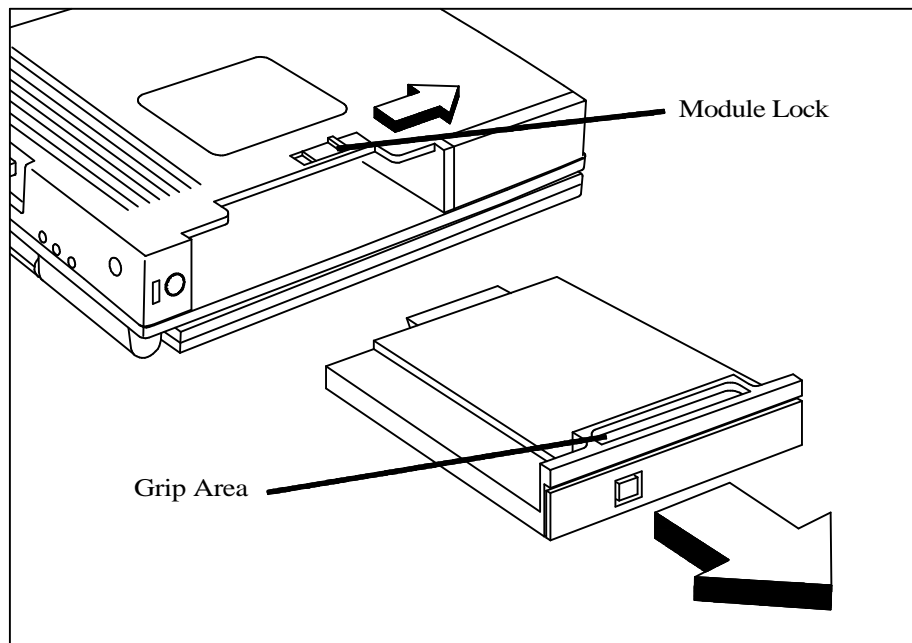

Figure 6-6 Removing/Replacing a Media Bay Device
2. Press the release latch on the bottom of the computer as shown in Figure 6-6.